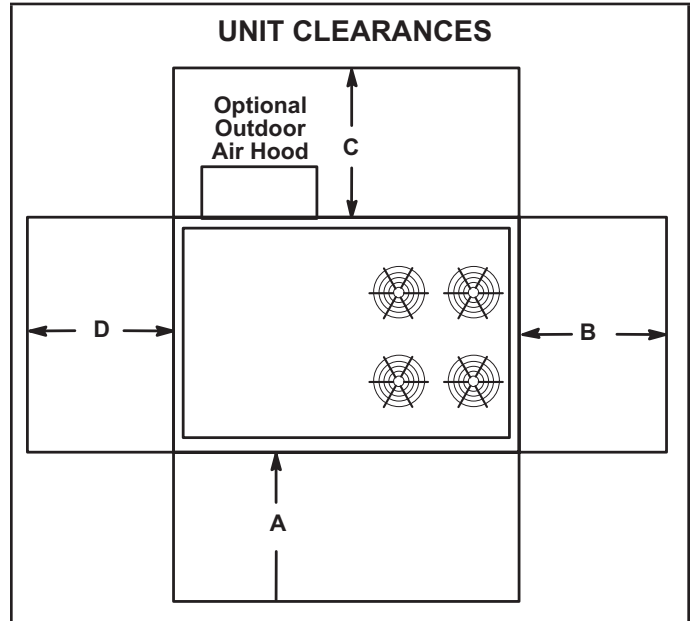

FIGURE 1
See FIGURE 1 for unit clearances.
- Specified installation clearances must be maintained when installing units. Refer to FIGURE 1.